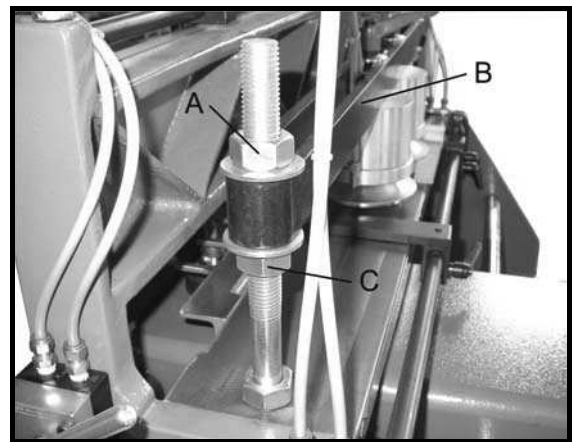

Figure 9
1. To increase the clamping capacity, loosen the top two hex nuts (A and B, Figure 9) on the stud at the end of the holder bracket, with a 30mm wrench. Do the same for the stud at the opposite end of the holder bracket.
2. Tighten the lower hex nut (C, Figure 9). You can do this without a wrench. This will raise the holder bracket. Do this incrementally on both studs until the desired height is reached. When finished, tighten top hex nuts (A & B, Figure 9) on both studs with the wrench.
NOTE: Make equal adjustment on both studs at each end of the holder bracket to ensure the clamps are parallel to the table. To check this, measure from the bottom edge of the holder bracket down to the table. Measure at each end of the holder bracket – the measurements should be equal. Figure 9 shows the horizontal clamping assembly - the procedure is identical for the vertical clamping assembly.
3. To decrease the clamping capacity, back off the lower hex nut (C, Figure 9) and tighten the top hex nut (A, Figure 9). This will lower the holder bracket.
4. When finished, tighten the lower hex nut (C) against the holder bracket, and bring hex nut (A) down against hex nut (A).